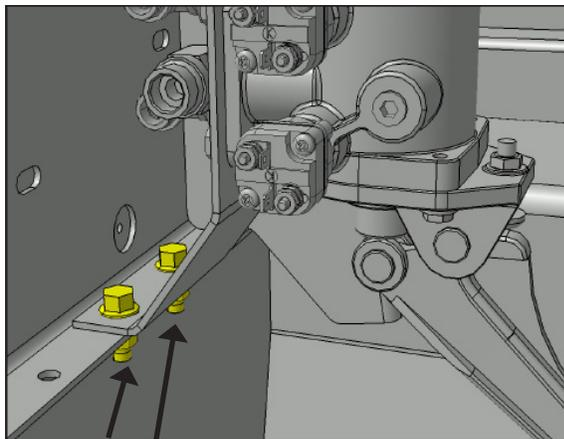

Figure 17: Reinstall the two sets of 3/8" bolts and nuts from the bottom of the treadle valve.
23. Reinstall and finger tighten the two (2) sets of 3/8" bolts and nuts from the bottom of the bracket (Figure 17).